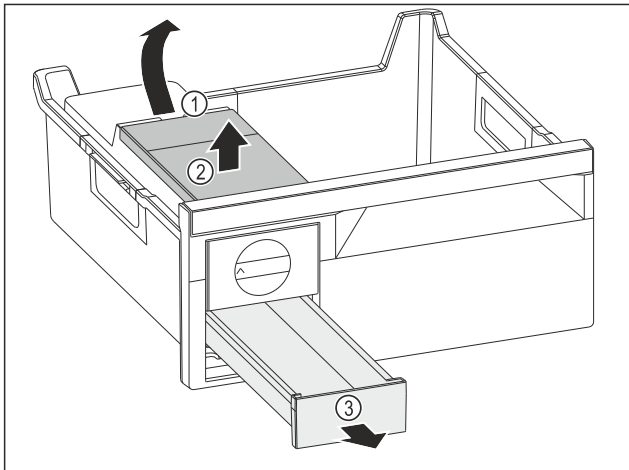

Fig. 110
- ▶ Removing the water tank: Lift the water tank at the recess Fig. 110 (1).
- ▶ Remove the water tank Fig. 110 (2) upwards.
- ▶ Remove the ice cube tray Fig. 110 (3) from the front.